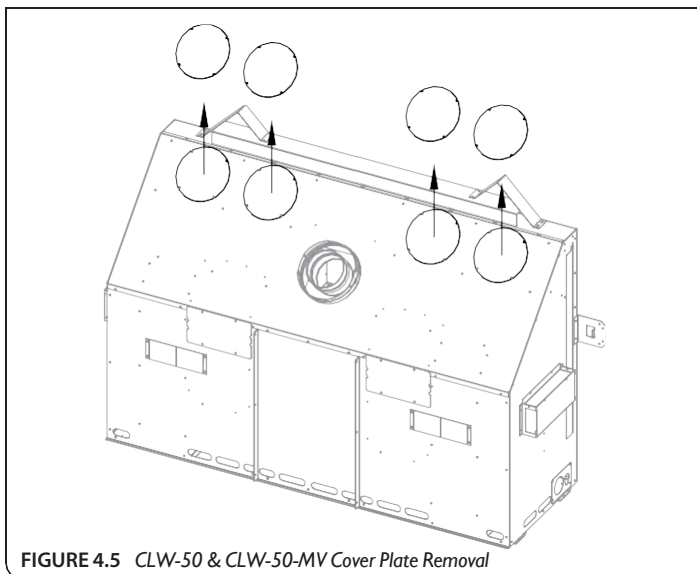

FIGURE 4.5 CLW-50 & CLW-50-MV Cover Plate Removal
2. **CLW-50 & CLW-50-MV:** Remove (4) cover plates on top of the appliance (4 screws each). See **FIGURE 4.5**.